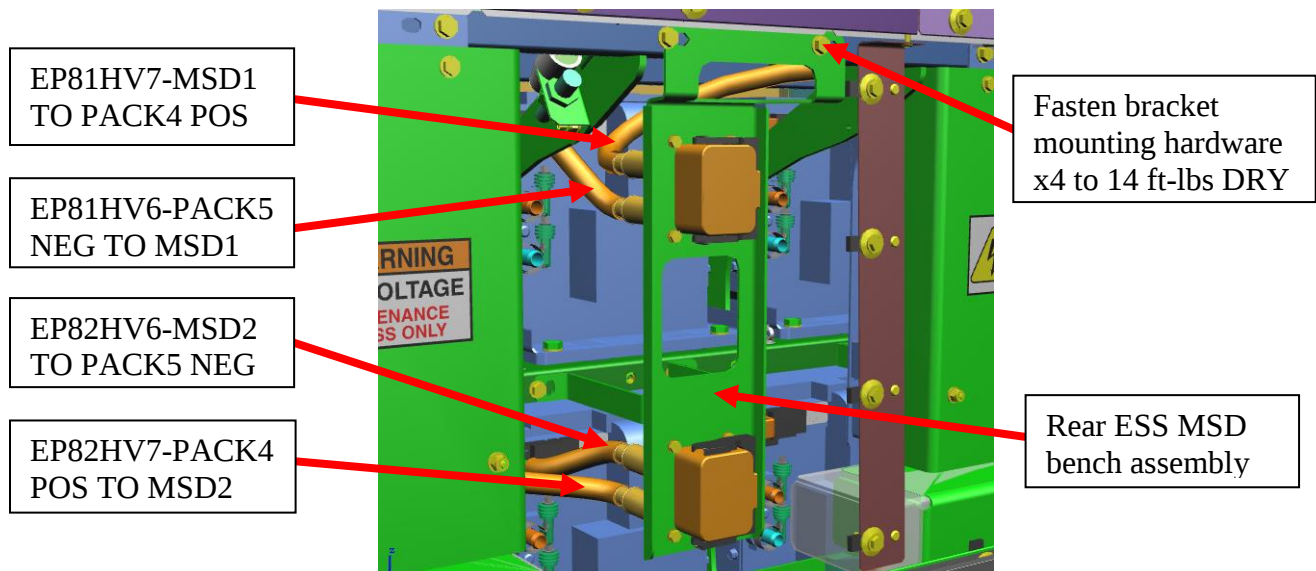

Figure 16: Backside of new MSDs mounted to MSD closeout
4.4 Install new MSD bench assembly onto bus. See figure 16.